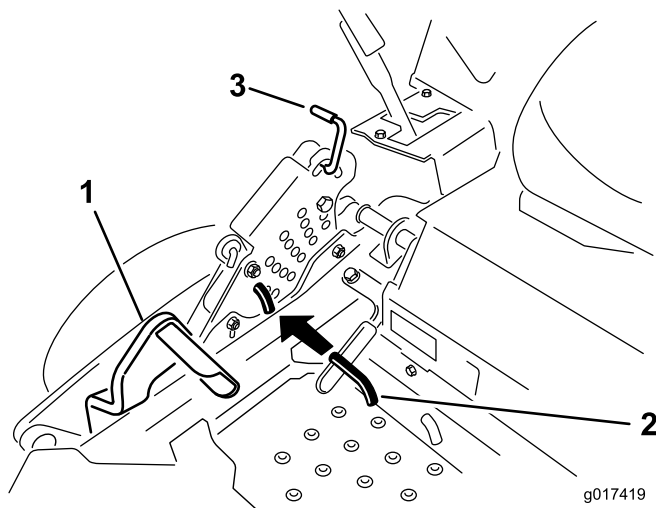

Figure 74
5. Push the deck lift pedal all the way forward and the deck will latch at the 14 cm (5-1/2 inch) transport position (Figure 74).